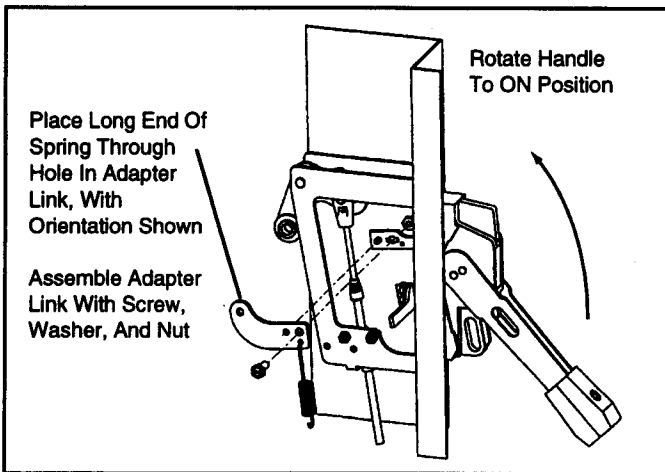

Fig. 1-5 Assembly of Spring and Adapter Link to Actuator Link
4. Connect the long end of the spring through the adapter link. See Fig. 1-5 for spring orientation. Then attach adapter link to the actuator link using the .250-20 hex head screw and nut. Rotate handle to ON position when attaching the spring.